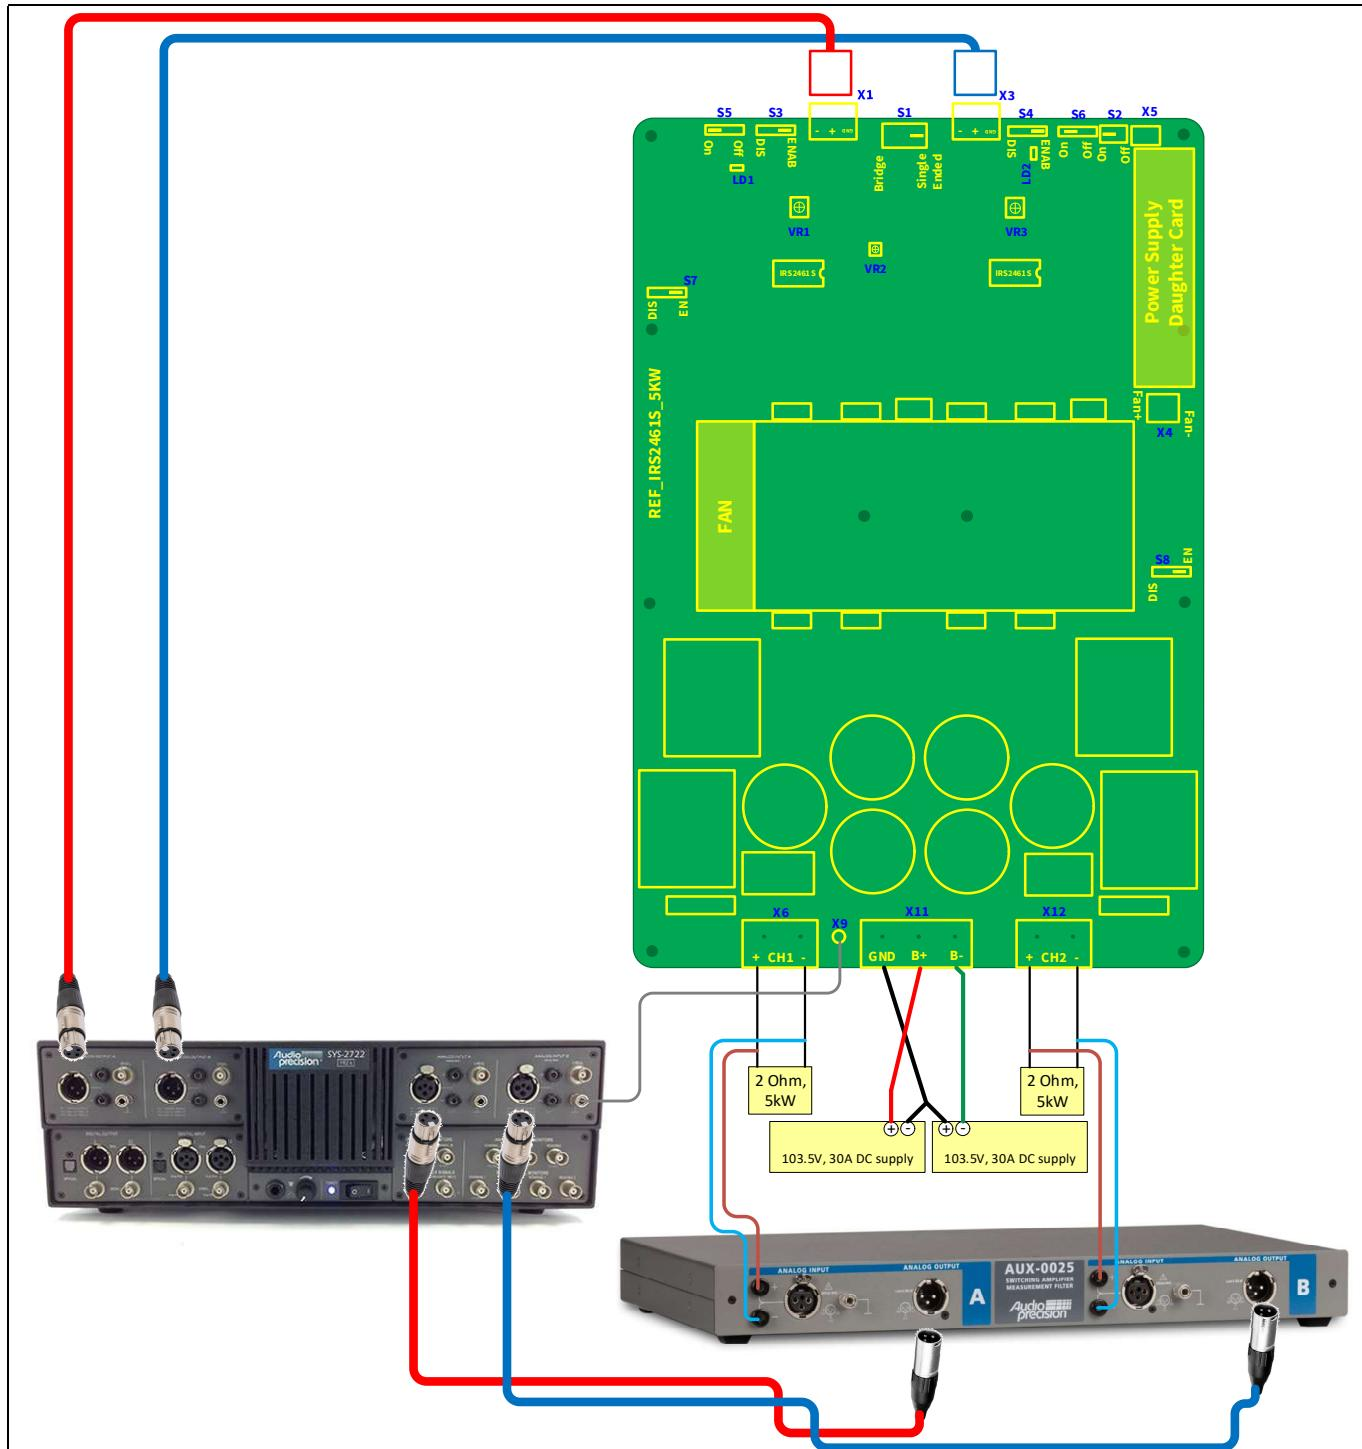
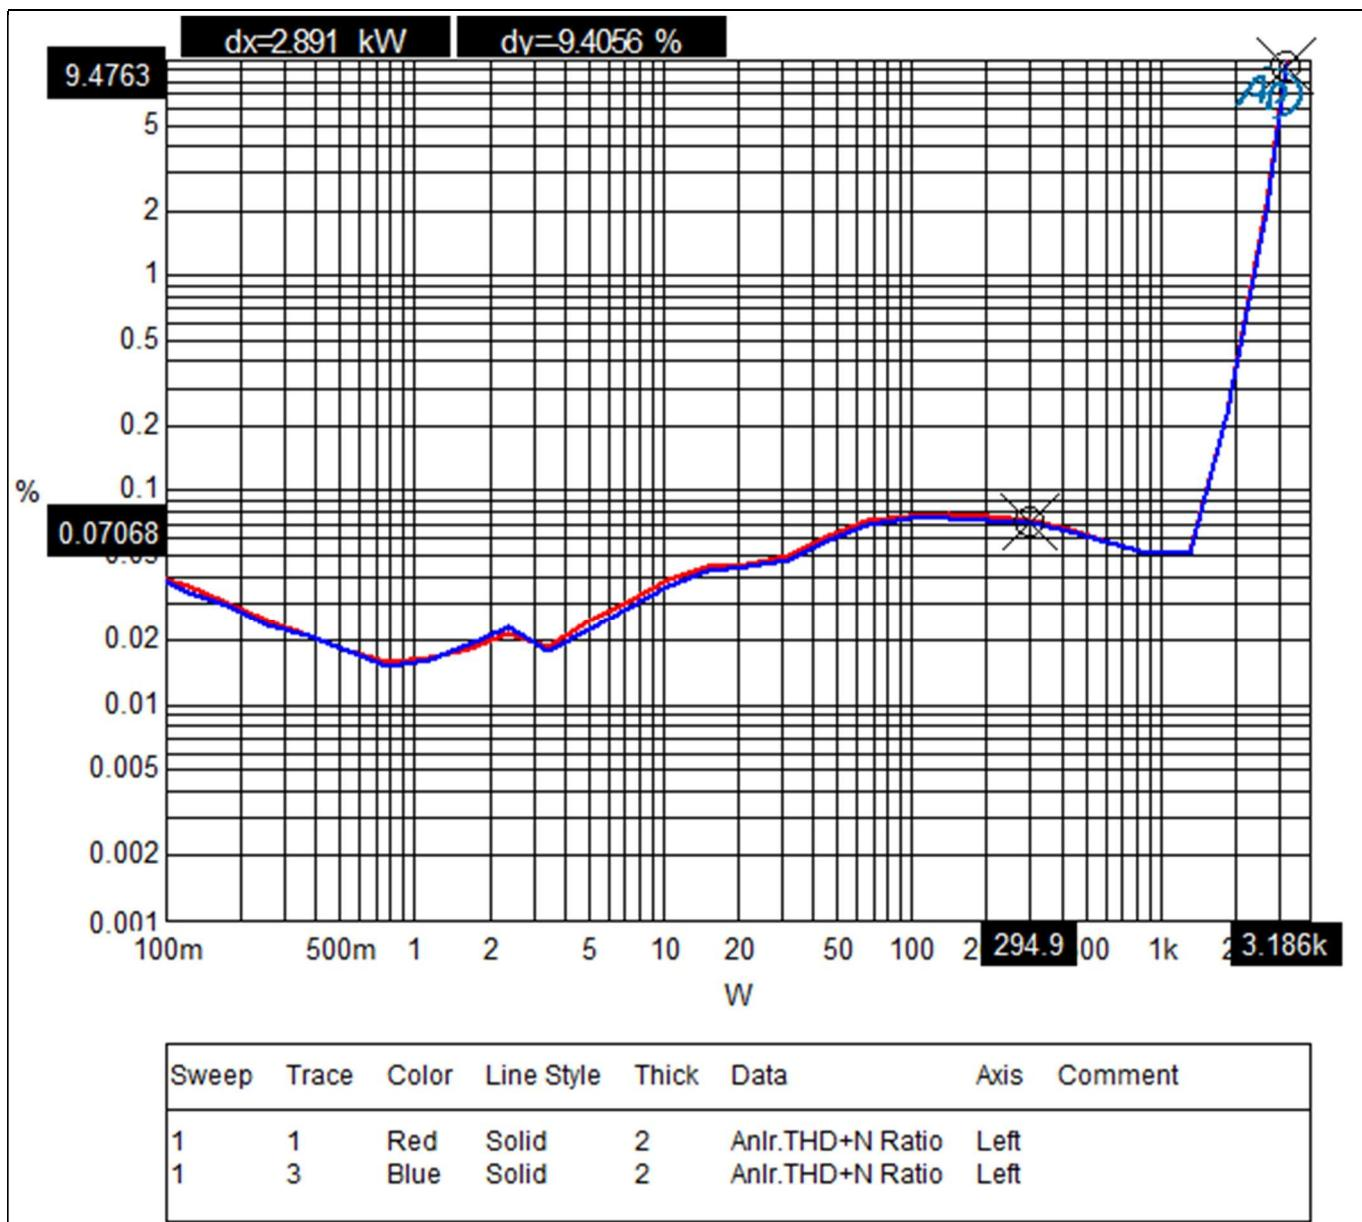

Figure 5 Audio Precision (AP) connection
Figure 6 THD+N vs Power sweep for CH1 and CH2 with clock injection
REF_IRS2461S_5KW and AP shall be connected according to the Figure 5.
1. Connect $2\Omega - 5000W$ dummy loads to the output connectors (X6, X12 as shown in Figure 5)
2. Connect the Audio Precision (AP) analyzer signal generator output to X1 and X3. Use Balanced connection with $Z_{out} \leq 20\Omega$.
5. Set AP's analog analyzer to 20kHz AES17 filter. It is also recommended to introduce the AUX-0025 filter in the setup only at this stage as shown in Figure 5. If the AUX-0025 filter is added before this step, the audio analyzer will not be able to accurately detect the self-oscillation frequency.
10. Run AP THD+N vs Power test as shown in Figure 5.
7. Set AP's analog analyzer to 20 kHz AES17 filter. It is also recommended to introduce the AUX-0025 filter in the setup only at this stage as shown in Figure 5. If the AUX-0025 filter is added before this step, the audio analyzer will not be able to accurately detect the self-oscillation frequency.
10. Run AP THD+N vs Power test as shown in Figure 5. The obtained results should look similar to Figure 6.